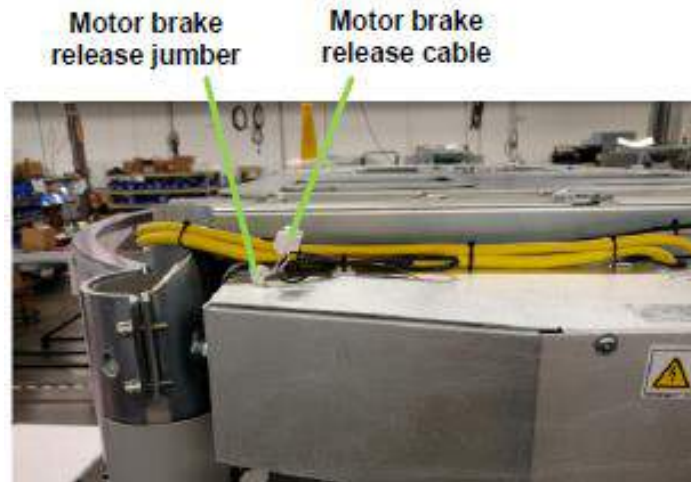

Figure 50: Motor Brake Release Cable and Detail Showing Jumper Connected
1. Connect the motor brake release jumper located on top of the electrical enclosure as shown in Figure 50.